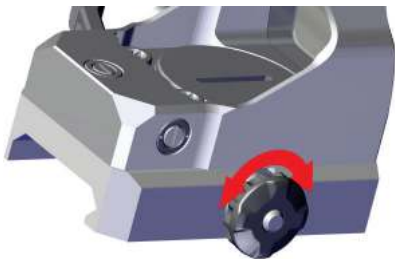

Figure 6: Tension Adjustment Nut
- Ensure that the MicroRDS is firmly secured on the Meprolight TruDot™ self-illuminated sight. If the MicroRDS is not firmly secured, adjust the tension adjustment nut (see also figure 6).